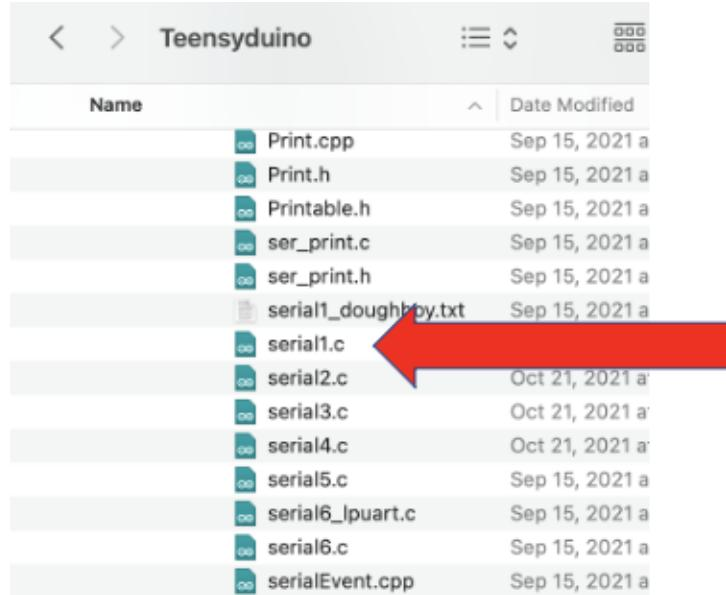

Figure 68. Right click on serial1.c
10. Scroll down to serial1.c (Figure 68)